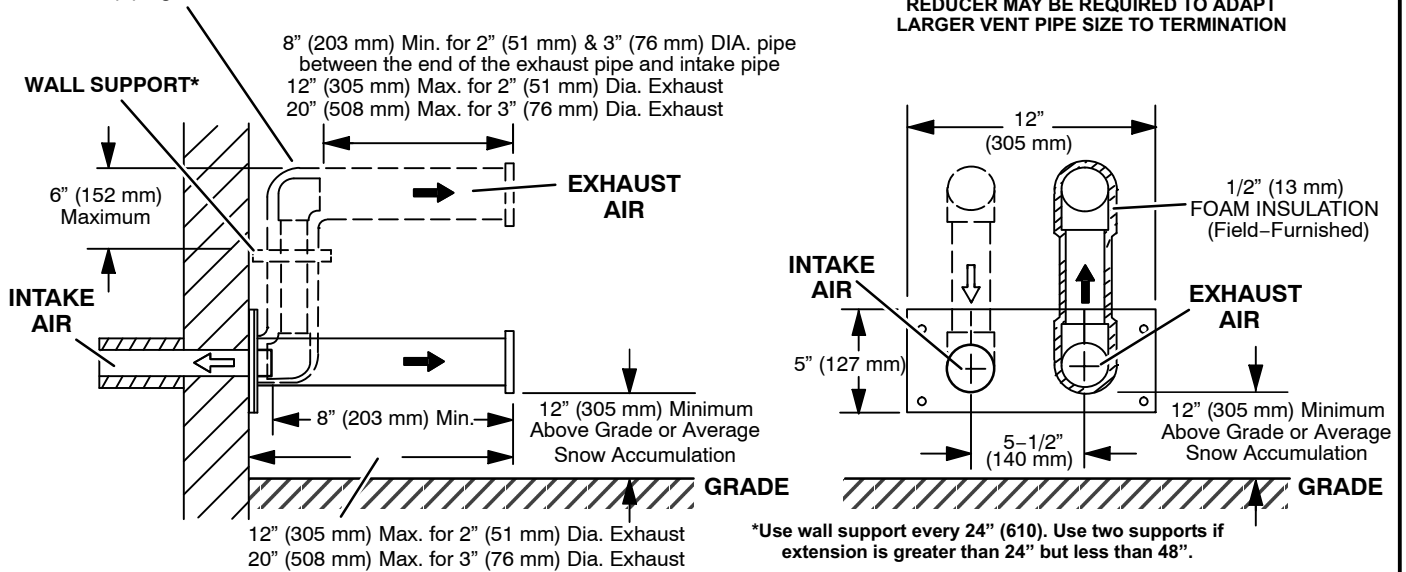

FIGURE 39
- If intake and exhaust piping must be run up a side wall to position above snow accumulation or other obstructions, piping must be supported every 24" (610mm) as shown in figures 30 and 32. In addition, close coupled wall termination kits must be extended for use in this application. See figures 39 and 40. When exhaust and intake piping must be run up an outside wall, the exhaust piping must be terminated with pipe sized per table 12. The intake piping may be equipped with a 90° elbow turndown. Using turndown will add 5 feet (1.5m) to the equivalent length of the pipe.